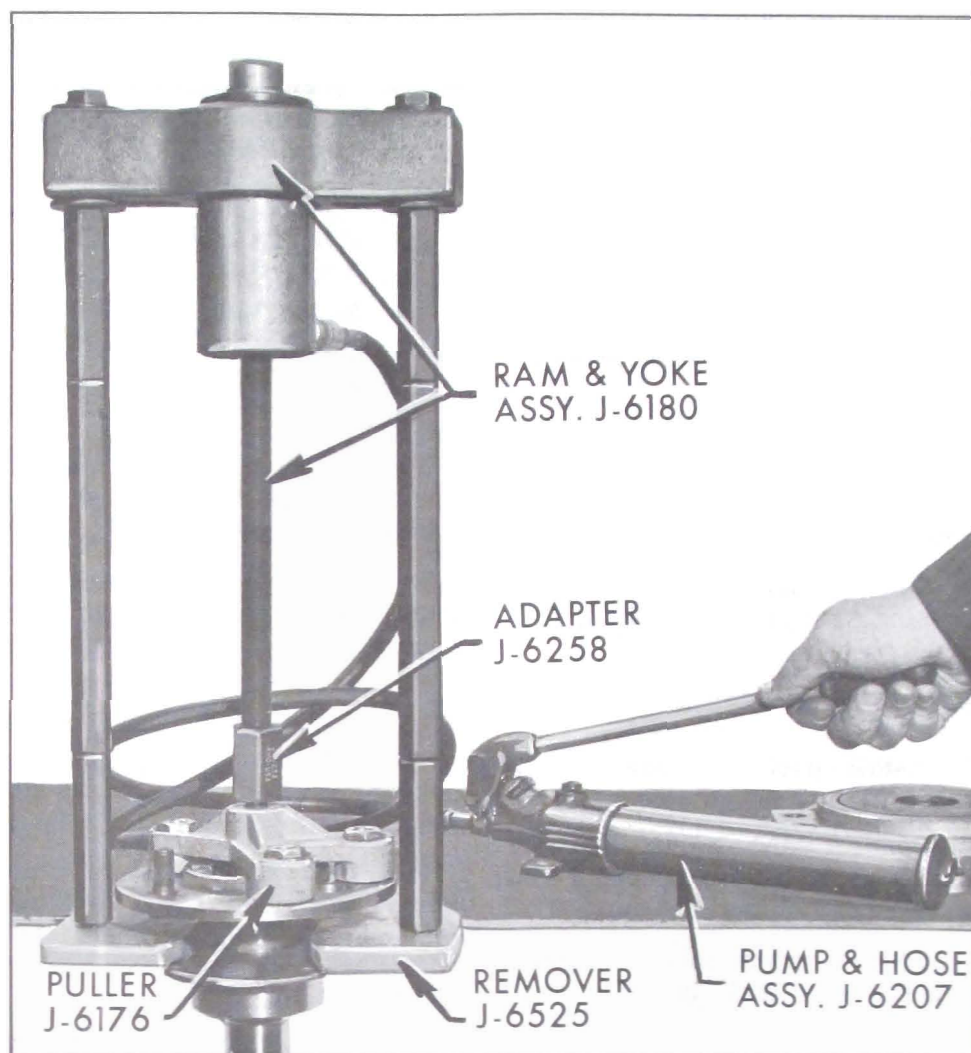

Fig. 6-50—Removing Rear Wheel Bearing
2. Press wheel bearing off, using Remove J-6525 either in a press or in a set-up using Ram and Yoke Assembly J-6180 and Adapter J-6258 as shown in Figure 6-50.